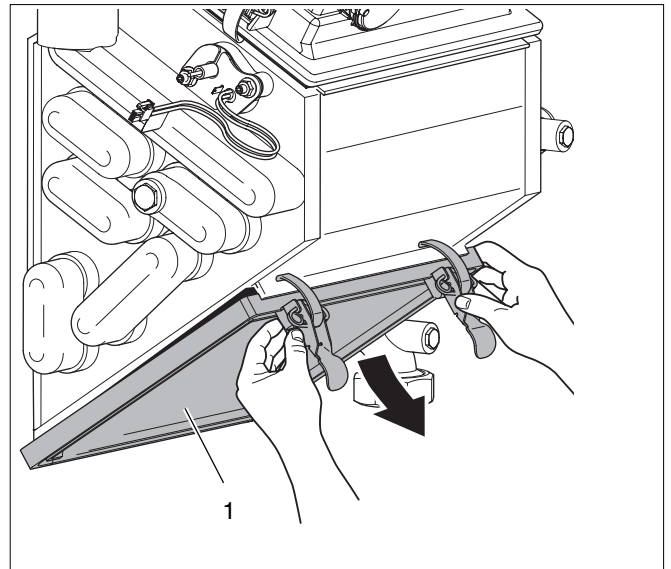

Fig. 130 Removing the condensate collector
- Remove the condensate collector (see fig. 130, pos. 1).